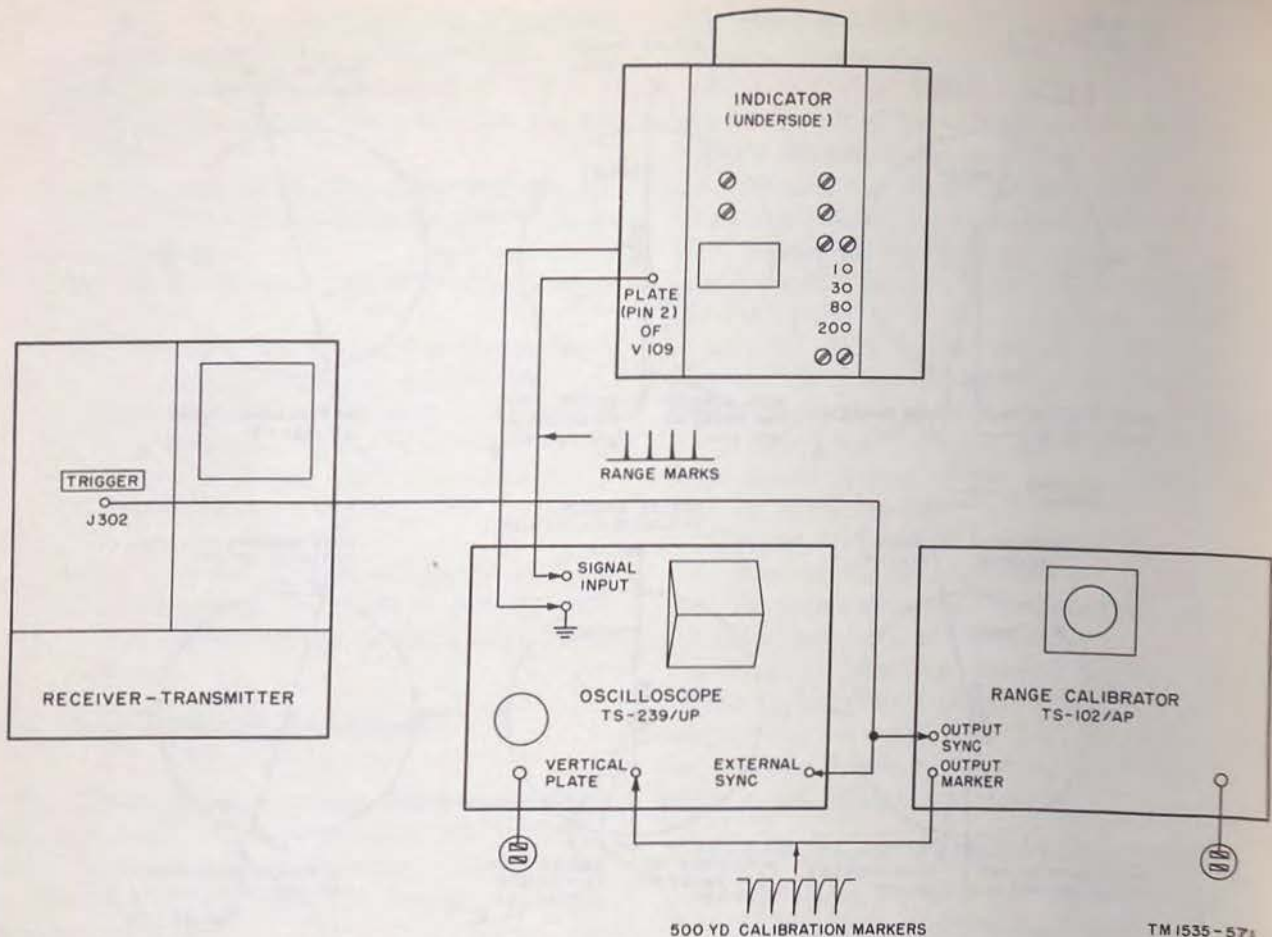

Figure 165. Calibration of range marks.
a. Connect Range Calibrator TS-102/AP and Oscilloscope TS-239A/AP to the radar set (fig. 165). Connect indicator ground to ground terminal on oscilloscope.